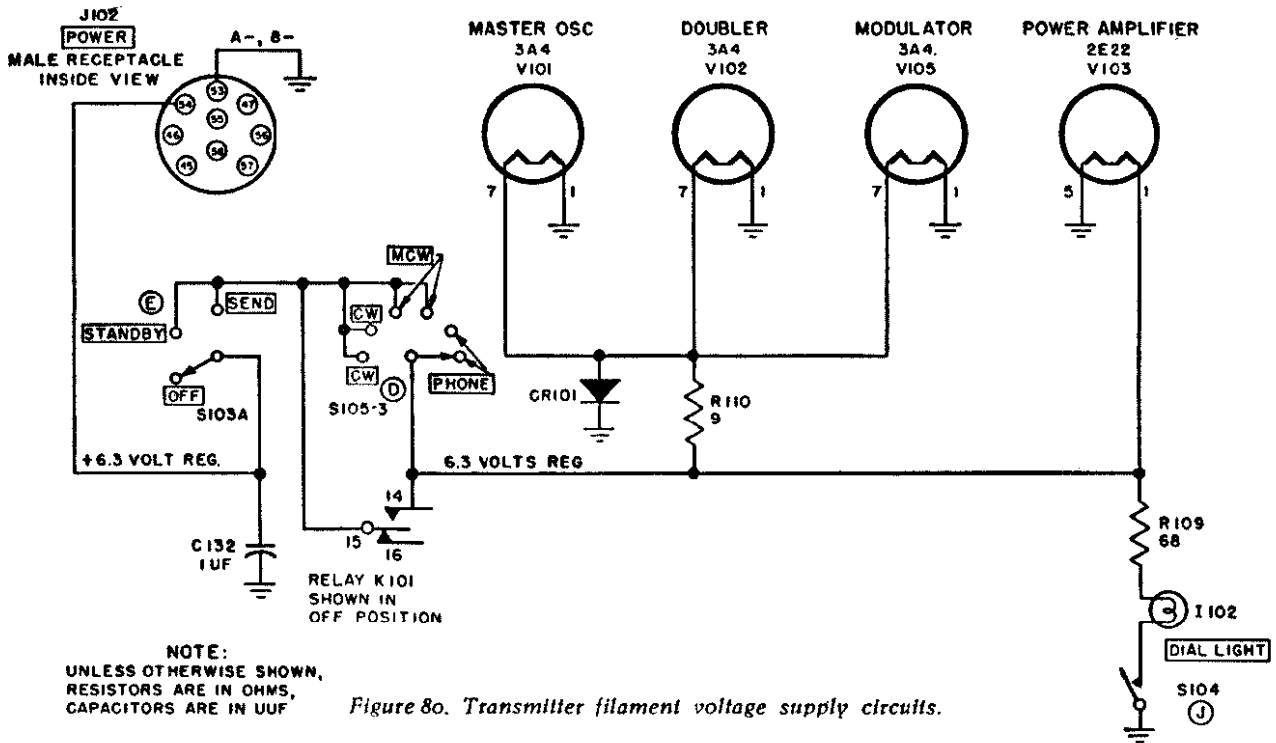

Figure 80. Transmitter filament voltage supply circuits.
98. Transmitter Filament Supply Connections (fig. 80)